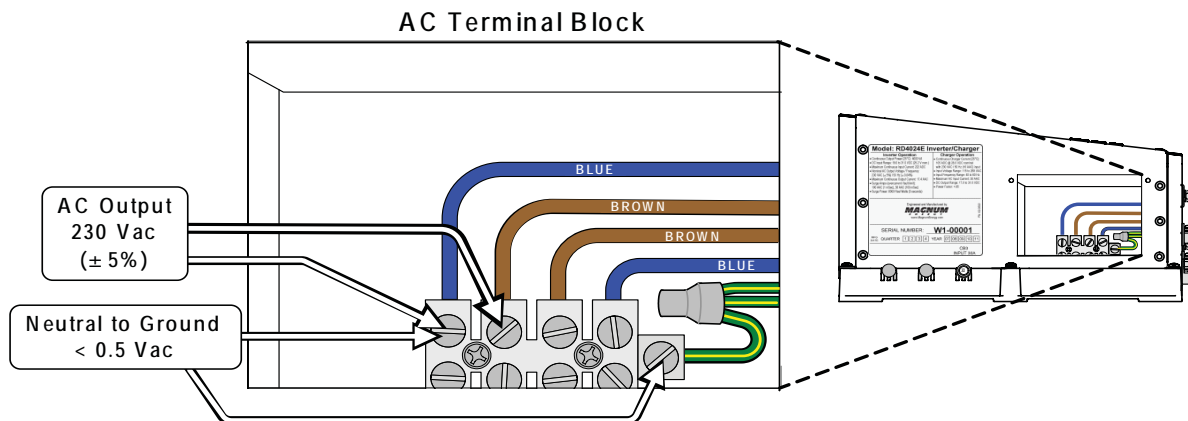

Figure 2-17, AC Voltage Checks
5. Check the AC output voltage of the inverter by connecting an AC voltmeter to the output terminals (see Figure 2-17) and verify the correct output voltages.